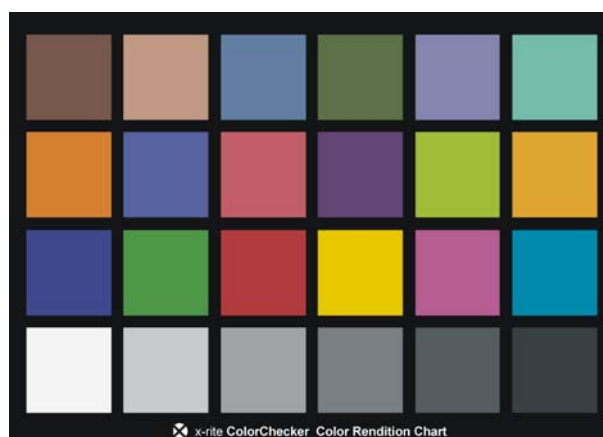

Figure 1: ColorChecker® chart
**Colour test card:** this should have a good variety of test colours. A photograph is not good enough, nor is a test chart specialising in only a few colours (e.g. skin tones). The photographic industry has long used the ColorChecker® chart (Figure 1) for colour testing.